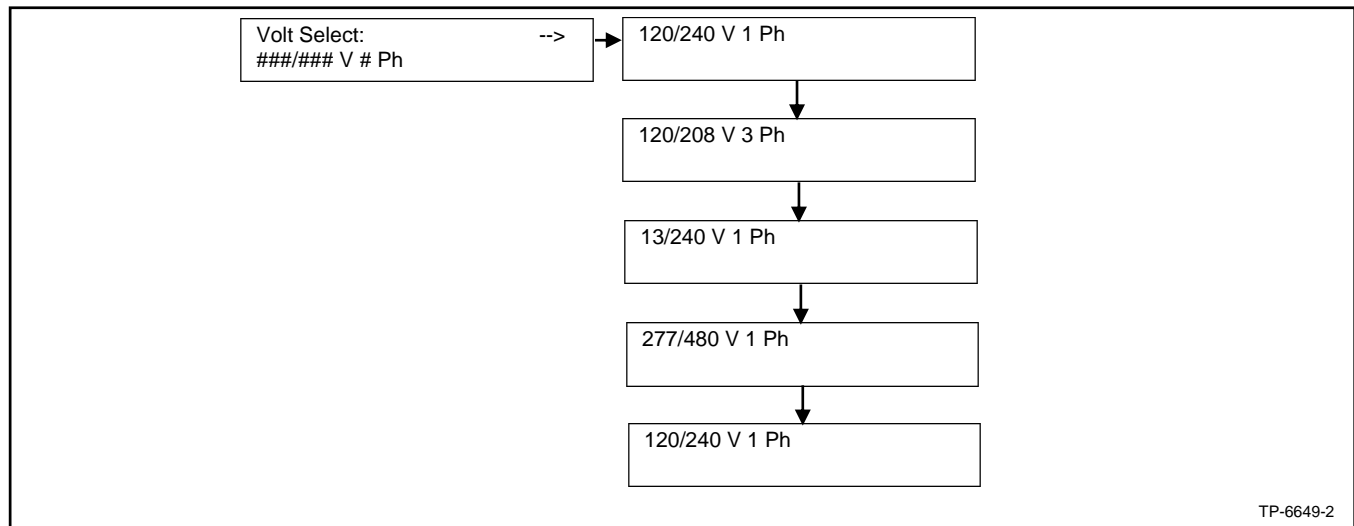

Figure 55 Volt Select Menu
1. Turn the controller pushbutton/rotary selector dial until it stops at the Volt Select menu. See Figure 55